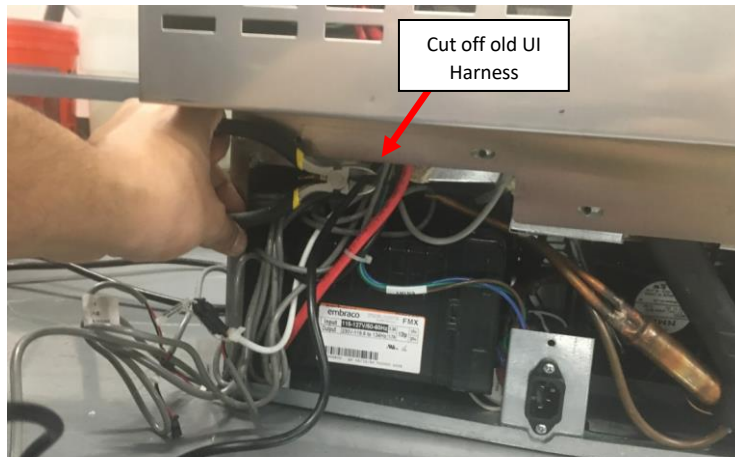

Figure 122: UI Harness connected to J3 Connector.
- iii. Find the existing UI Harness (the harness that is no longer used) and follow it up to where it is hidden behind the Rear Enclosure on the Fridge. Cut the redundant/replaced UI Harness at this point. Be careful to cut the correct wire and discard it. **See Figure 122.**